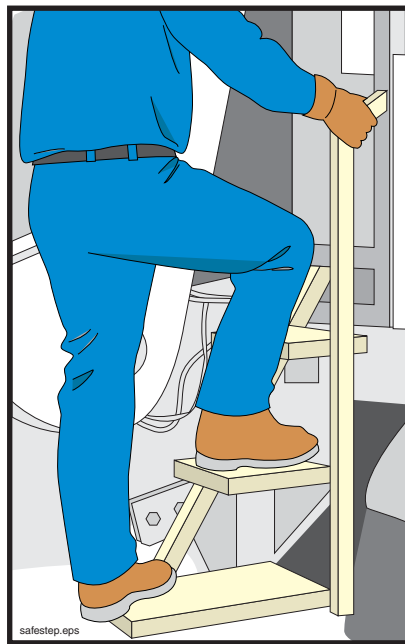

Figure 38
- 13.13** **⚠ WARNING** Remember to mount and dismount the unit using the 3-point Rule. One hand and two feet or two hands and one foot are to be in contact with a secure surface at all times (Figure 38).